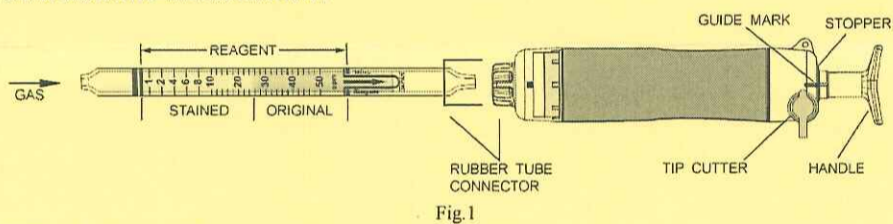

Fig.1
- ② Insert the detector tube into the aspirating pump securely as shown in Fig.1. (Arrow mark shall point to the pump.)
- ③ Align the guide marks on the handle and stopper of the aspirating pump.
- ④ Pull the pump handle at a full stroke until it locks and wait for 1.5 minutes or until the completion of sampling is confirmed with the flow indicator of the pump. (See descriptions about the flow indicator in the instruction manual of the pump.)
- ⑤ On completion of sampling, read the scale at the maximum point of the stained layer.
- ⑥ In the case of Maleic anhydride measurement, turn the handle right or left by 1/4 (90°), push it toward the pump without removing the detector tube from the pump and repeat step ③~④ three times more.